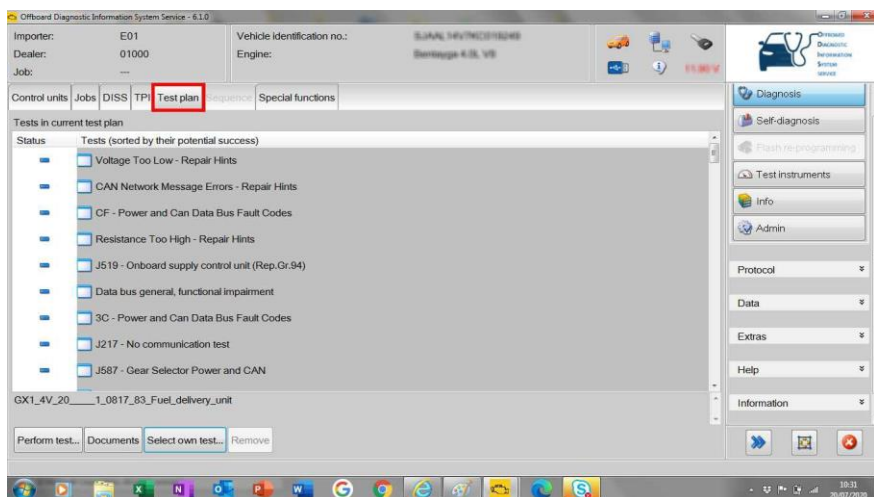

Figure 1.
- Follow the on screen prompts and then select *Test plan* – figure 1.